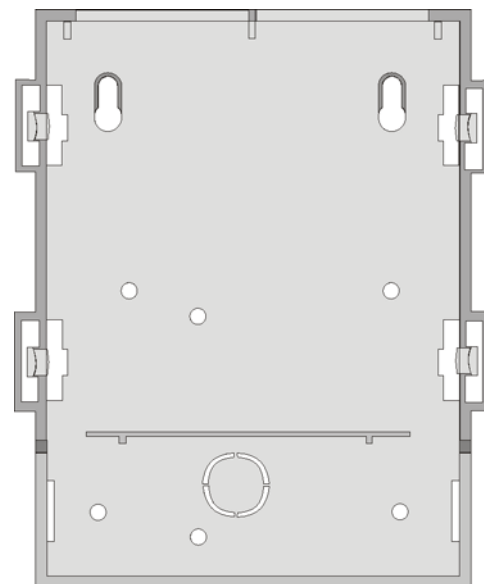

Figure 2: Enclosure Base
3. Remove knockout if running wires through the back of the base, and mount the base using any of the mounting holes provided (Figure 2). Mounting hardware not included.